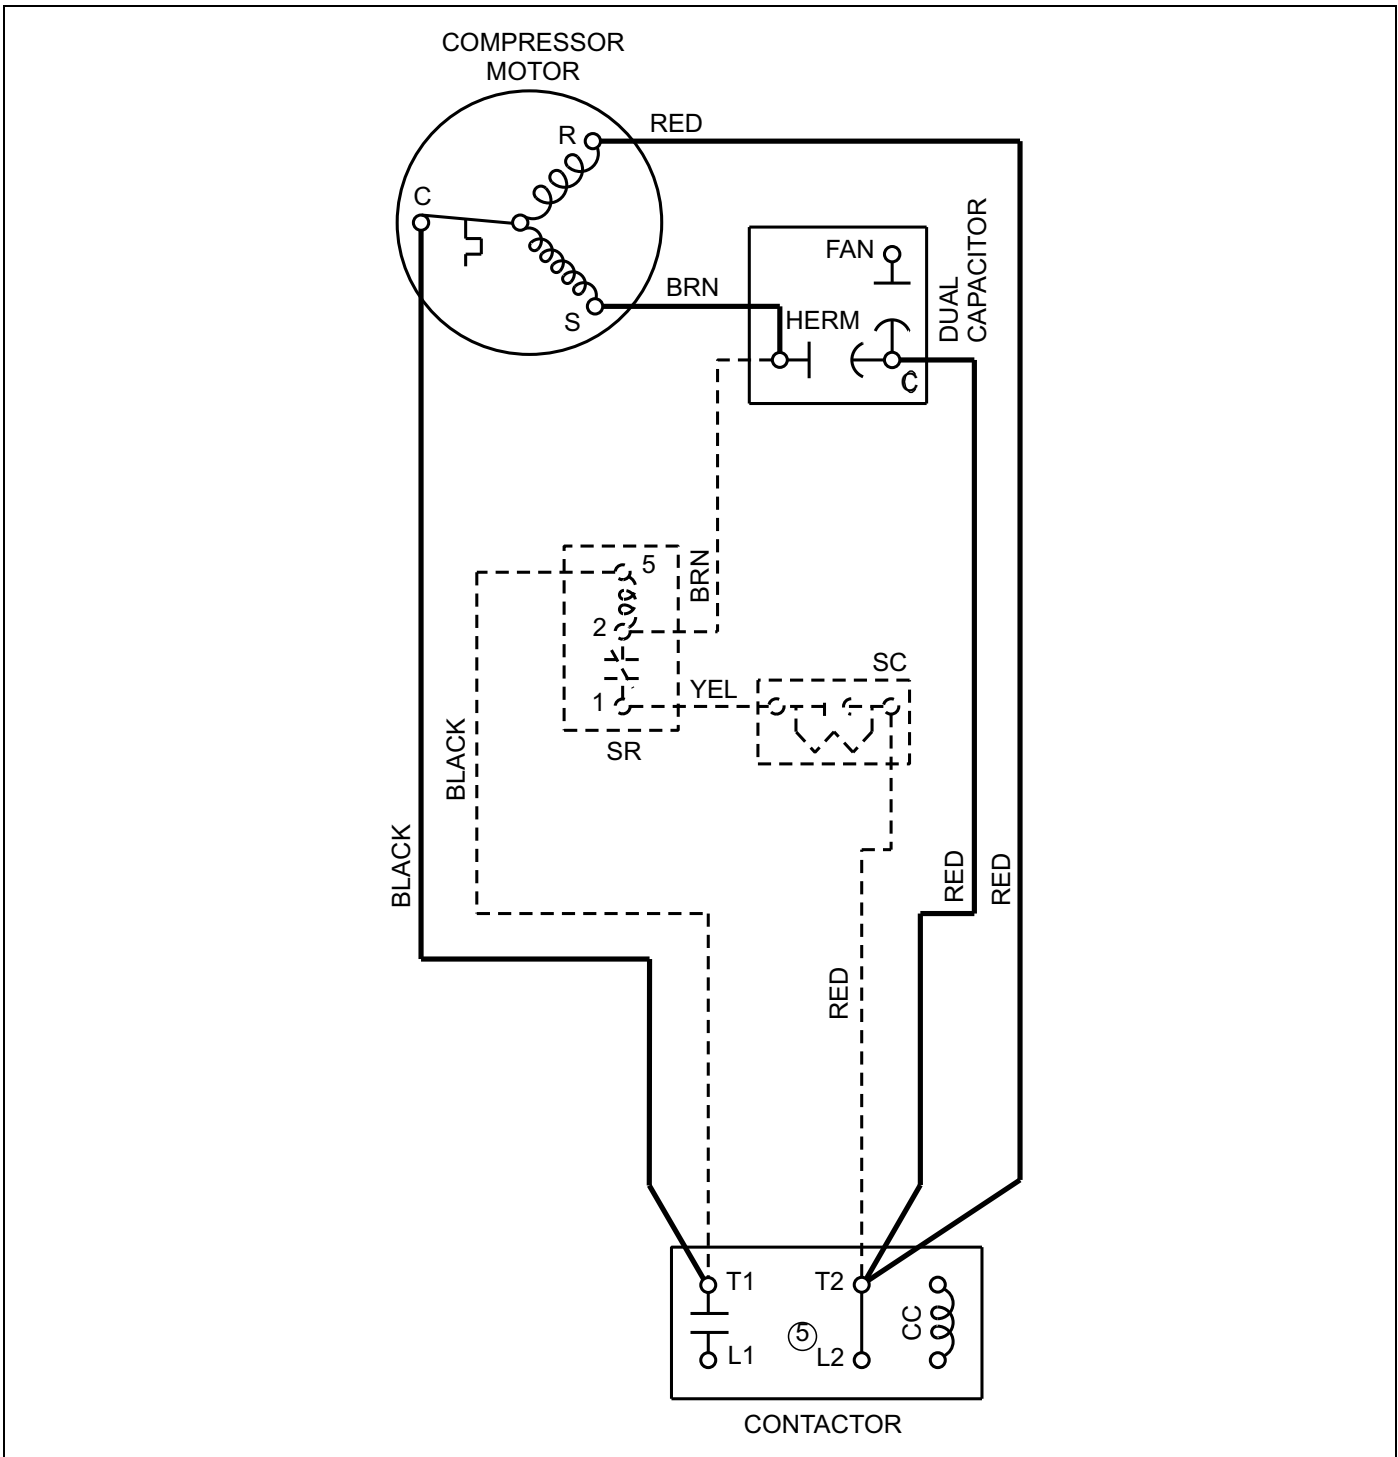

FIGURE 12: Universal Wiring Diagram
6. Attach the brown lead wire from the Hard Start Kit relay #2 terminal to the same terminal on the dual capacitor which was identified in Step 5. See Figure 12.
The wiring of the capacitor and relay must agree with Figure 12. Also, see wiring diagram on control box cover.